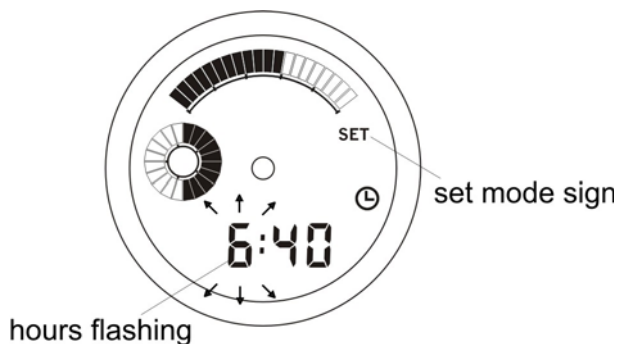

Fig. 3.7
3.2.6.2 To set the alarm clock ON time and current time enter the time indication as described in clause 3.2.2. Then the long pressing of button 2 (SET) switches on the *setting the alarm clock ON time*. After this the display will show the flashing hours of the alarm clock setting and the set mode sign - **SET** (Fig. 3.7).